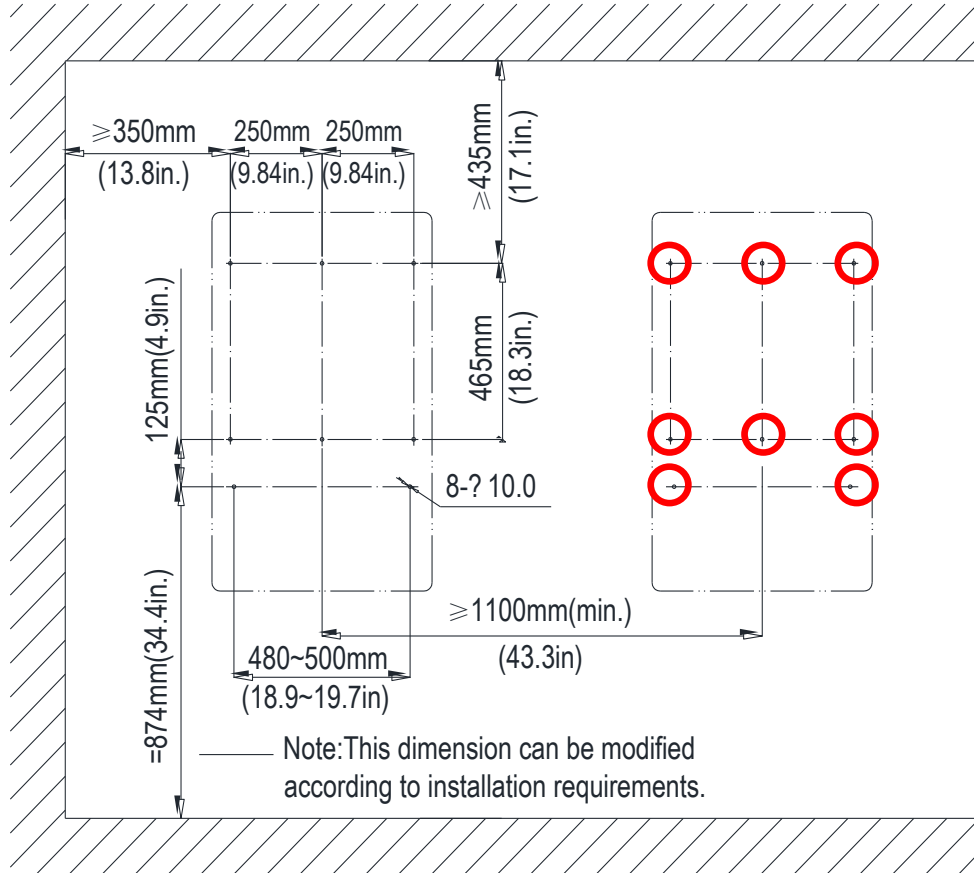

Figure 3-5 Dimensions of the bracket anchoring holes for mounting
1. Locate and mark the 8 holes on the wall, PV racking structure, or bearing surface for attaching the inverter mounting bracket as shown in Figure 3-5.